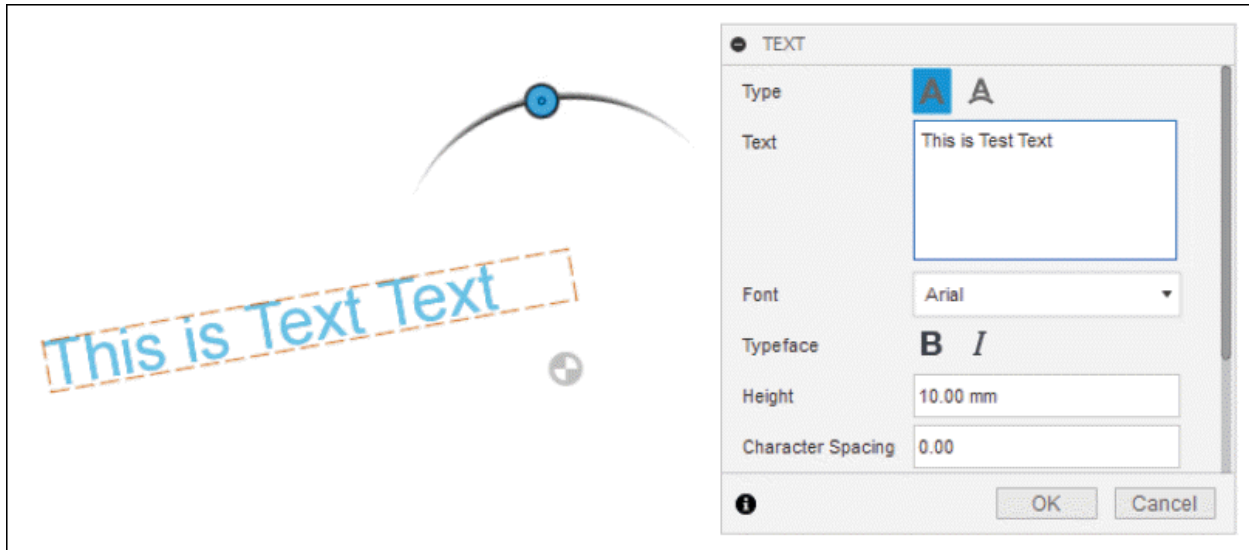

Figure-48. Preview of text created in a rectangular frame
- Click in the **Text** edit box and type desired text. Preview of text will be displayed in real-time; refer to Figure-48.